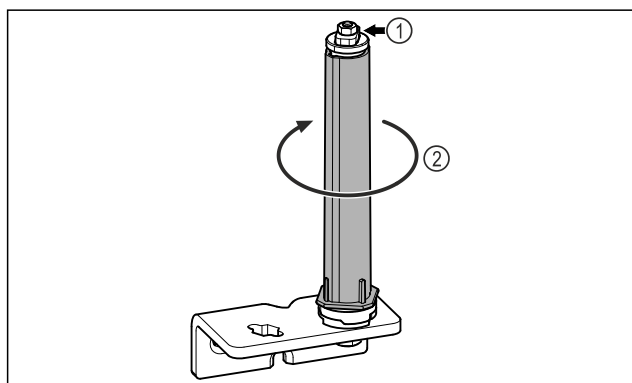

Fig. 14
► Do not disassemble the door locking system Fig. 14 (1).
► Turn the locking system Fig. 14 (2) until it clicks.